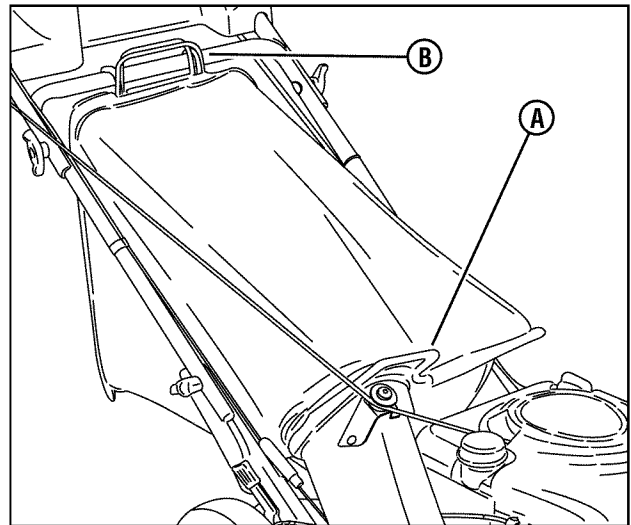

Figure 15: Installing the grass bag
2. Install the grass bag by sliding the connector (A, Figure 15) over the adapter flange.
3. Attach the grass bag hooks (B) over the middle handle cross bar.